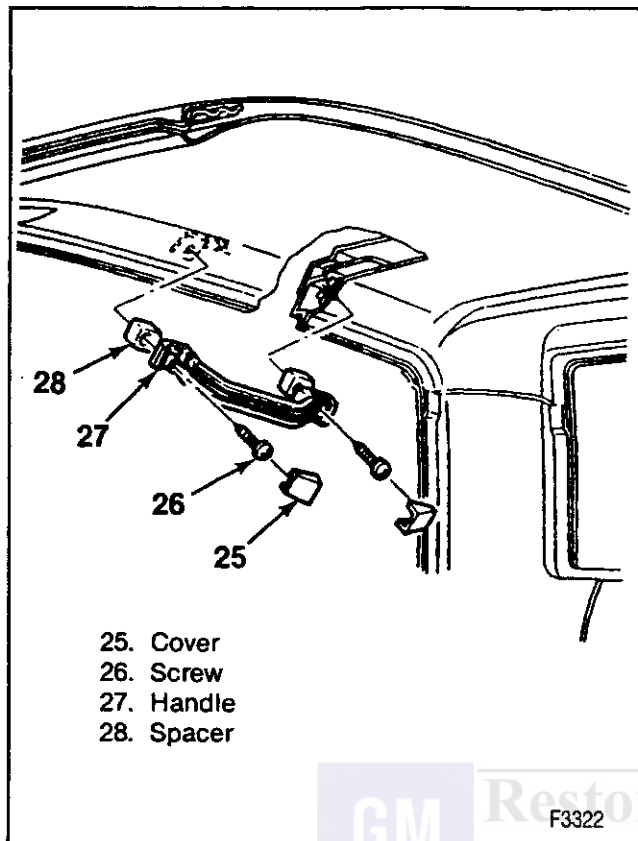

Figure 9—Assist Handle Replacement
**Remove or Disconnect (Figure 9)**
1. Handle screw covers (9).
### ↔ Install or Connect (Figure 9)